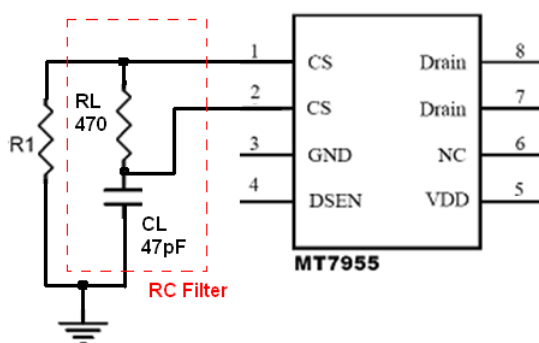

Fig.3 RC Filter Between CS(P) and CS(D)
In some cases, because of transformer leakage inductance or PCB routing issue, there is large switching noise on CS(P) pin. This noise will affect the peak current detection on CS(D) pin. In this case, a RC filter can be added between CS(P) and CS(D) pin. $R=470\text{ohm}$, $C=47\text{pF}$. Refer to Fig. 3.